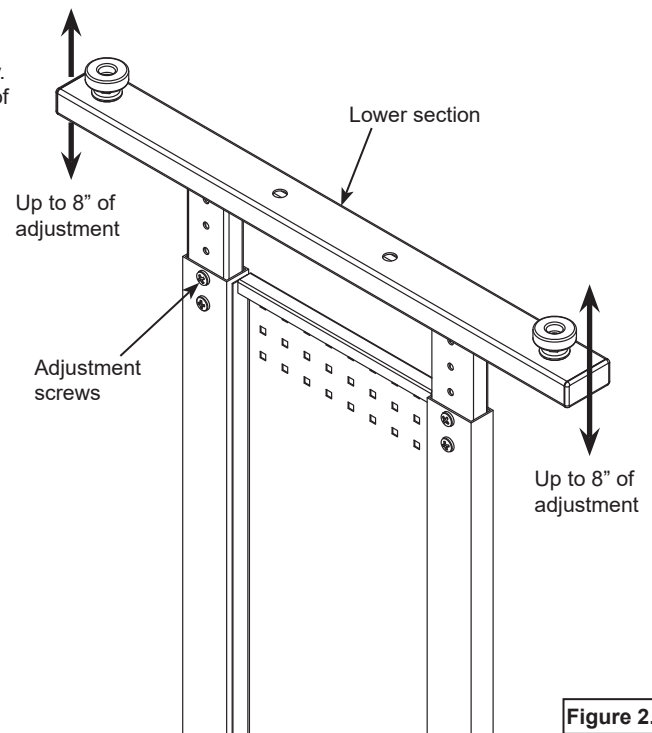

Figure 2.3
1. To adjust the legs, remove the (4) pre-installed adjustment screws. (Fully-support the lower section of the leg while removing). **Figure 2.3.**
3. Install the (4) previously removed screws in the new holes and tighten securely.